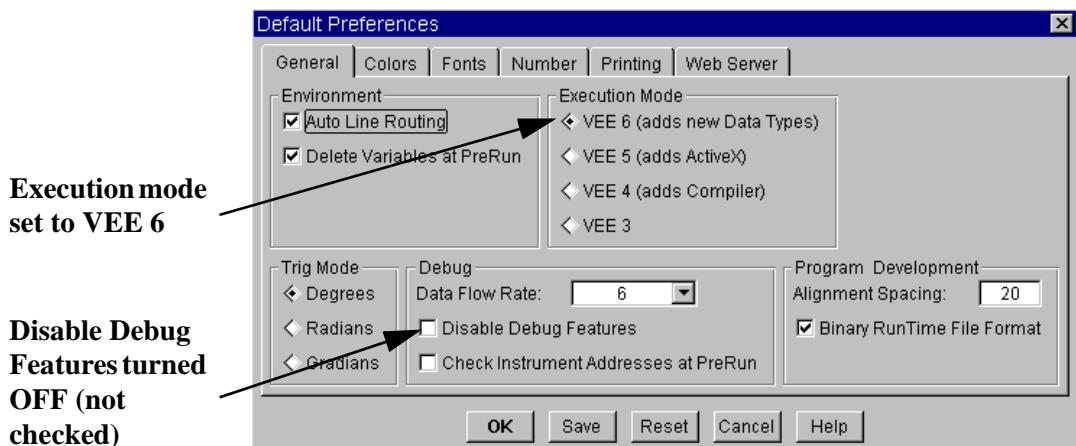

Figure 11-13. Changing the Execution Mode in Default Preferences
2. In the General folder (already displayed, since it is the first folder), under **Execution Mode**, select VEE 6.0 as shown in Figure 11-13. In the same folder, make sure that **Disable Debug Features** is *not* selected. Click **OK**.